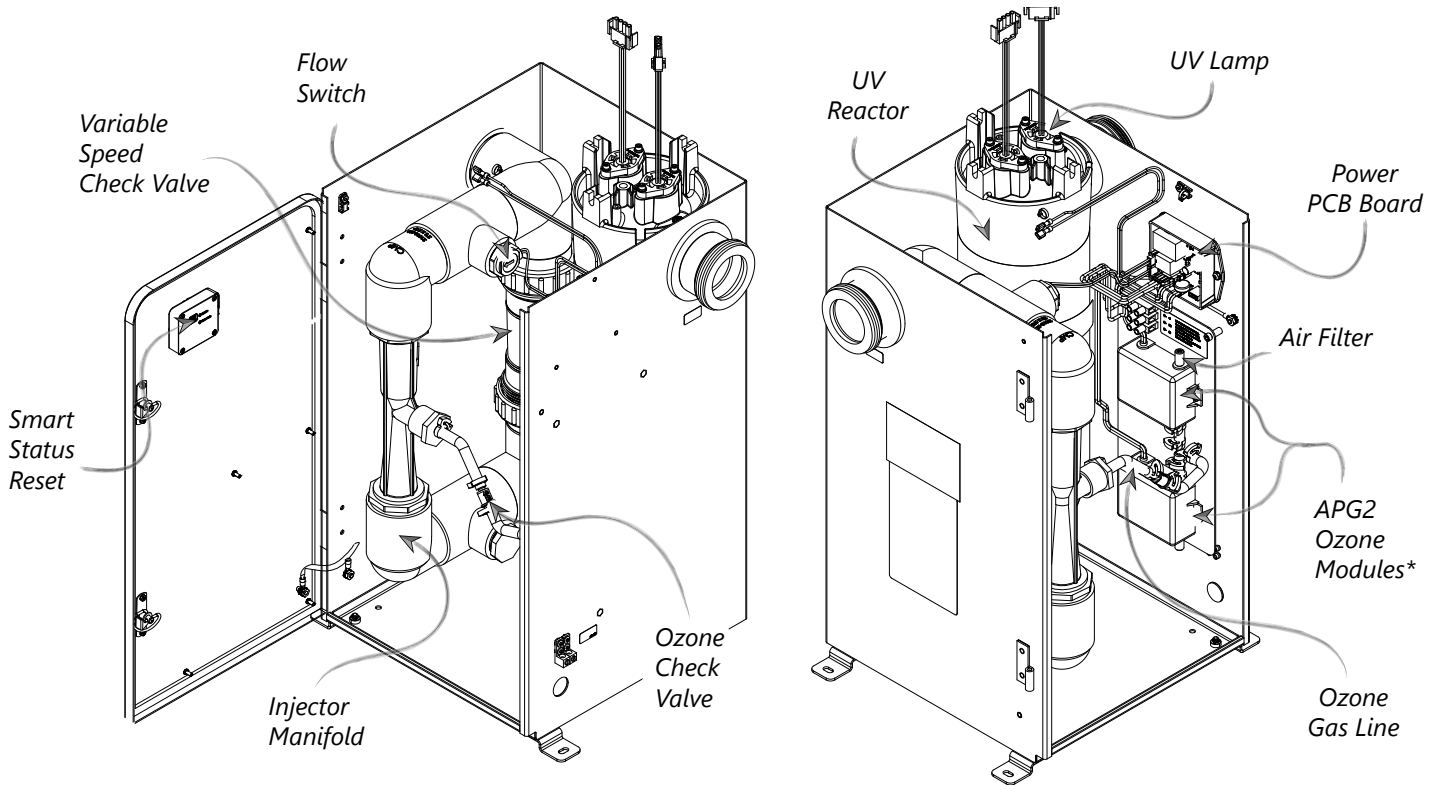

Figure 9: DEL AOP Electro-Mechanical Overview
3. Locate the 1" NPT drain plug (Refer to Figure 9) and remove to drain the remaining water.